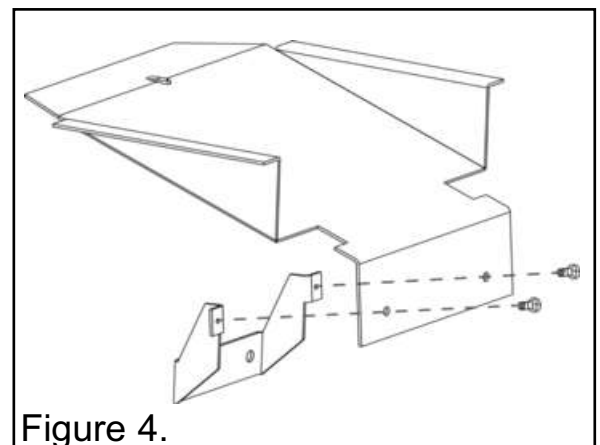

Figure 4.
- These should be fitted to the stove following figures 4, 4A, 4B and 5. Do not bolt in place until fitting the deflector.
Fit the Spacer bracket as shown in figure 4 tightly to the Draught Deflector using the two screws